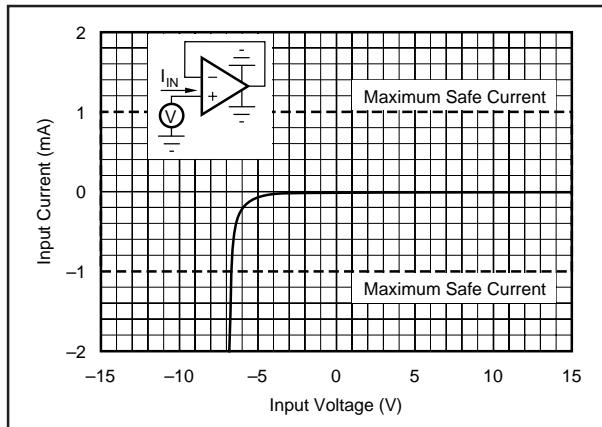

FIGURE 2. Input Current vs Input Voltage with $\pm V_{CC}$ Pins Grounded.
(2) Packages must be derated based on $\theta_{JA} = 90^\circ\text{C}/\text{W}$ for PDIP and $100^\circ\text{C}/\text{W}$ for SOIC. (3) For supply voltages less than $\pm 18\text{VDC}$, the absolute maximum input voltage is equal to $+18\text{V} > V_{IN} > -V_{CC} - 6\text{V}$. See Figure 2. (4) Short circuit may be to power supply common only. Rating applies to $+25^\circ\text{C}$ ambient. Observe dissipation limit and T_J .
Unlike BIFET amplifiers, the **Difet** OPA124 requires input current limiting resistors only if its input voltage is greater than 6V more negative than $-V_{CC}$. A $10\text{k}\Omega$ series resistor will limit input current to a safe level with up to $\pm 15\text{V}$ input levels, even if both supply voltages are lost (Figure 2).